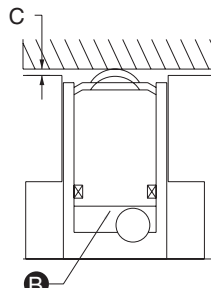

Fig.4
- *Hydraulic version (fig. 4):* The bearing module lifts the tool with the help of hydraulic pressure in the chamber (B). When the hydraulic pressure is removed, the tool rests on the press bed.